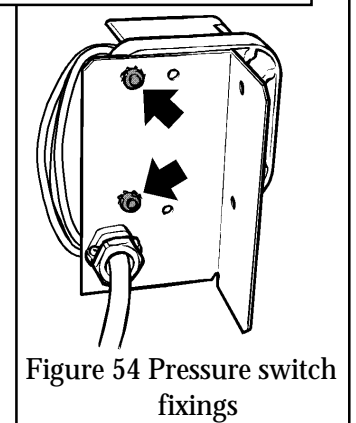

Figure 54 Pressure switch fixings
15.11.2 Detach the pressure switch from the control bracket by removing two screws, nuts & washers (see figure 54).